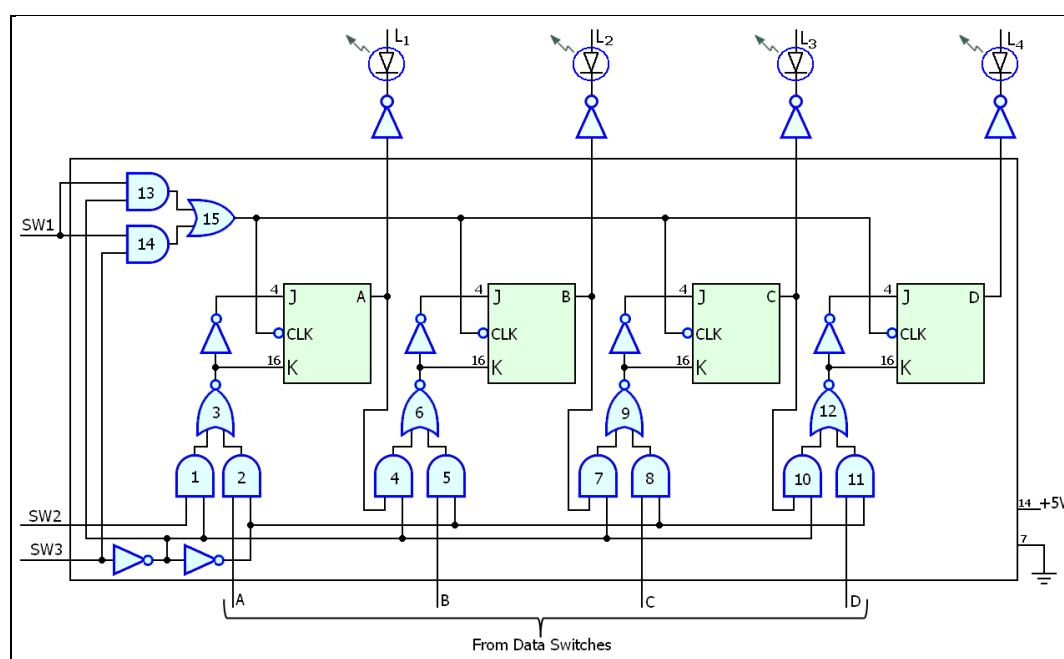

Fig. 2-3 Serial Left/Right-Shift Register Circuit
6. Modify your 74LS95 shift register circuit to conform to the configuration shown in Fig. 2-3. Here you are connecting the parallel data inputs back around to the outputs in order to permit the shift register to perform shift left operations. As before you will use the A-logic switch to generate shift pulses. Data switch (SW1) will be used for a serial data input for shift right operations. (SW4) will be used as the data source for shift left operations. Switch (SW2) will be used to control the mode of the circuit. The mode control will select either shift right or shift left operations.
Studying the circuit in Fig. 2-3, determine the binary state of the mode control input to perform shift left operations. \_\_\_\_\_